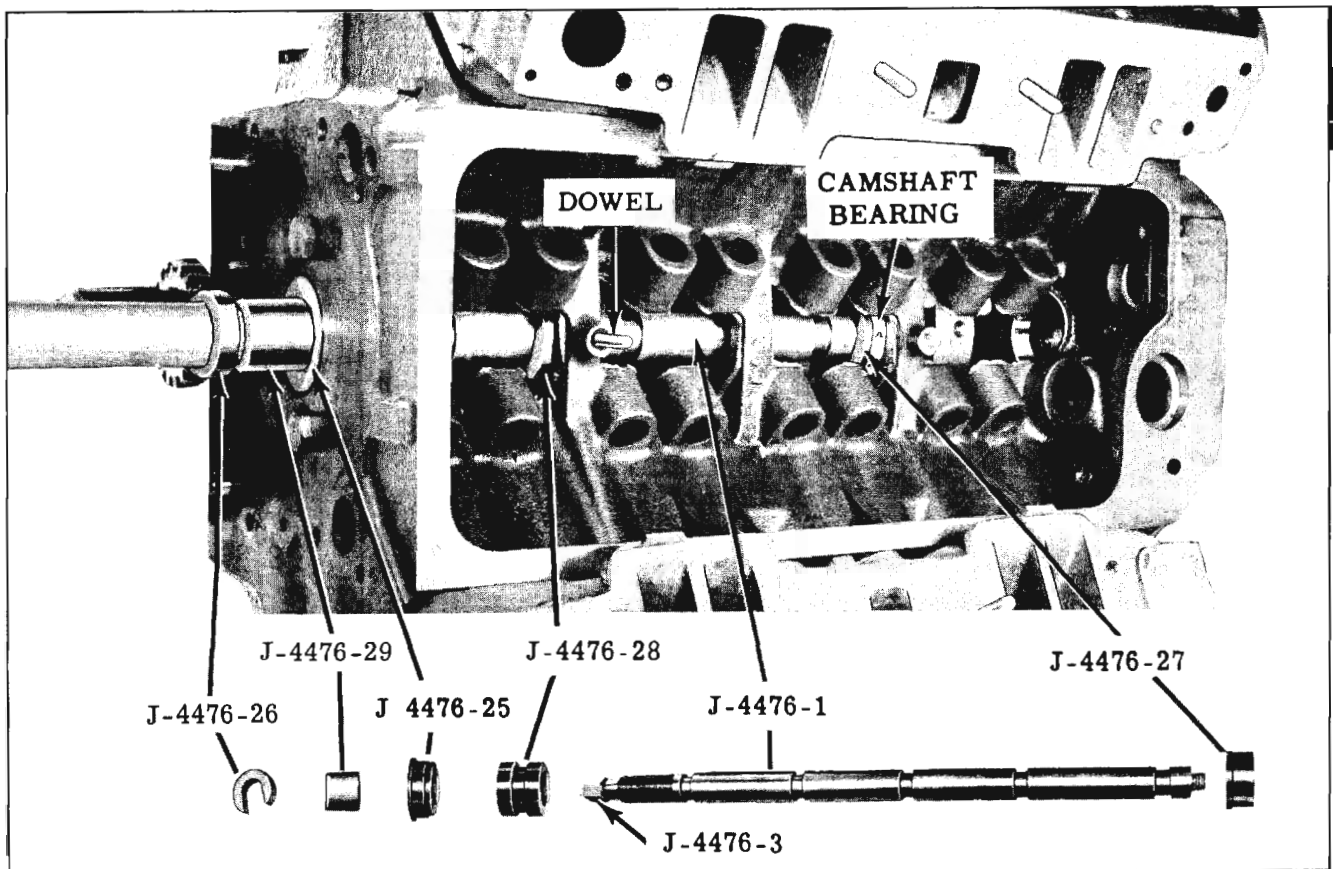

Fig. 8-43 Installing No. 4 Camshaft Bearing (Typical of 3 and 2)
- a. Assemble tools as shown in Fig. 8-43.